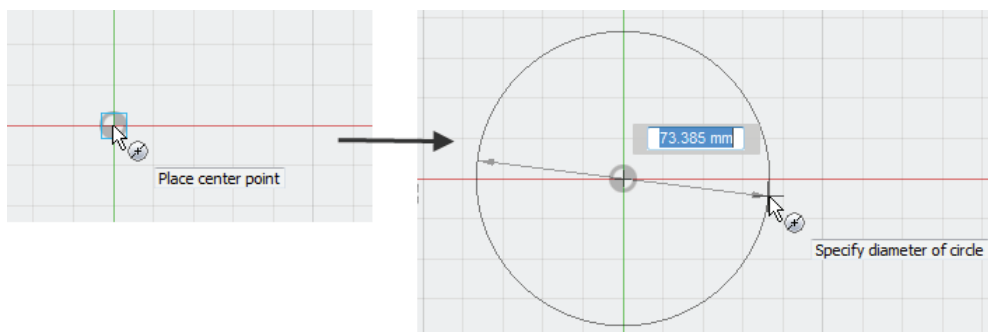

Figure-12. Creation of center diameter circle
- Click to specify the center point for the circle; refer to Figure-12.